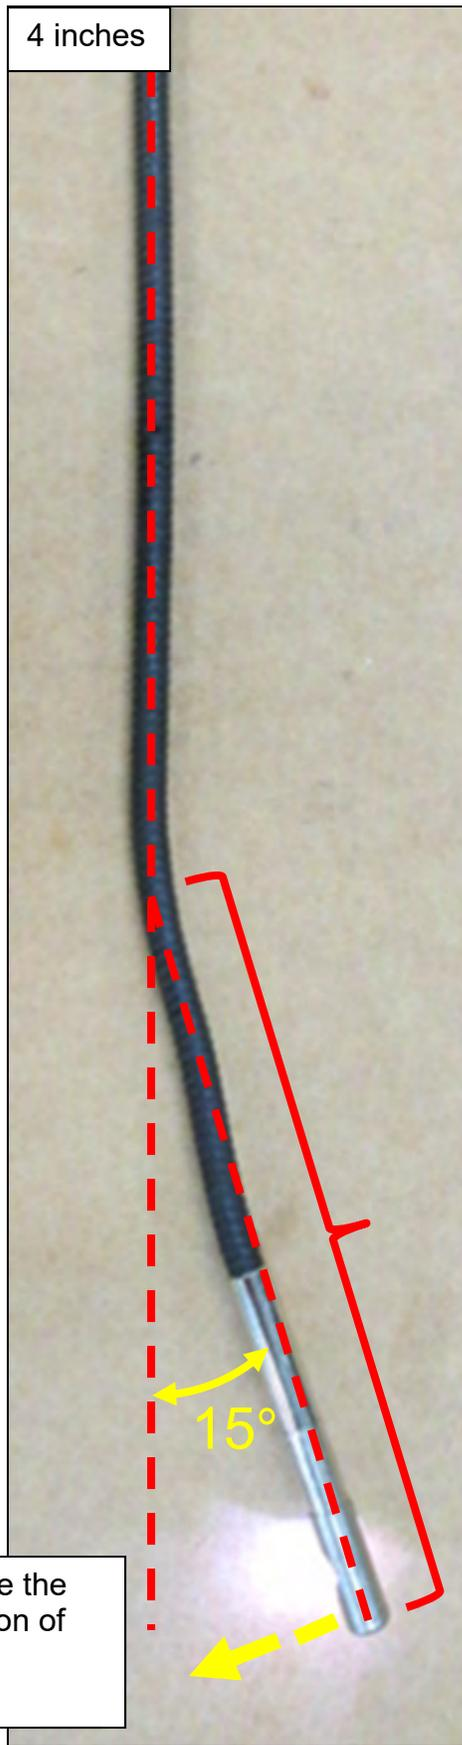

Figure 35
d. Using the mark applied to the driver side (LH) front wheel for reference, slowly and carefully rotate the driver side (LH) front wheel one full turn in either direction to view all of the belt.
- Holding the borescope (camera flexible tube) with one hand allows rotation of the wheel with the other hand (Figure 35).
- f. Using the mark applied to the driver side (LH) front wheel for reference, slowly and carefully rotate the driver side (LH) front wheel one full turn in either direction to view all of the belt.
- i. Holding the borescope (camera flexible tube) with one hand allows rotation of the wheel with the other hand (Figure 35).